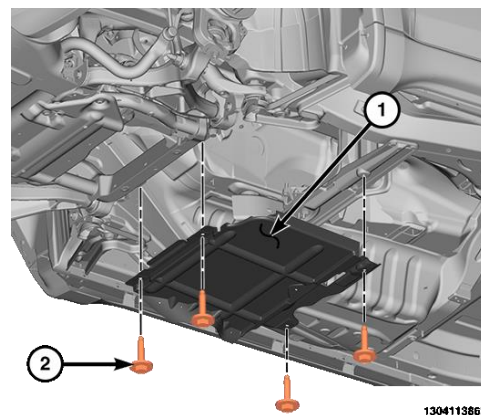

Figure 2 – Transmission Skid Plate
8. Remove the bolts (2) and remove the transmission skid plate (1) (Figure 2).